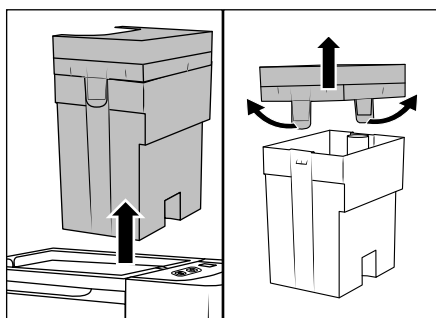

Fig. 7
- ◆ Hold the dirty water tank 7  by the handle of the lid 3 and pull it upwards out of the appliance (see Fig. 7).
- ◆ Pull the two retaining tabs slightly outwards and remove the lid 3 (see Fig. 7).